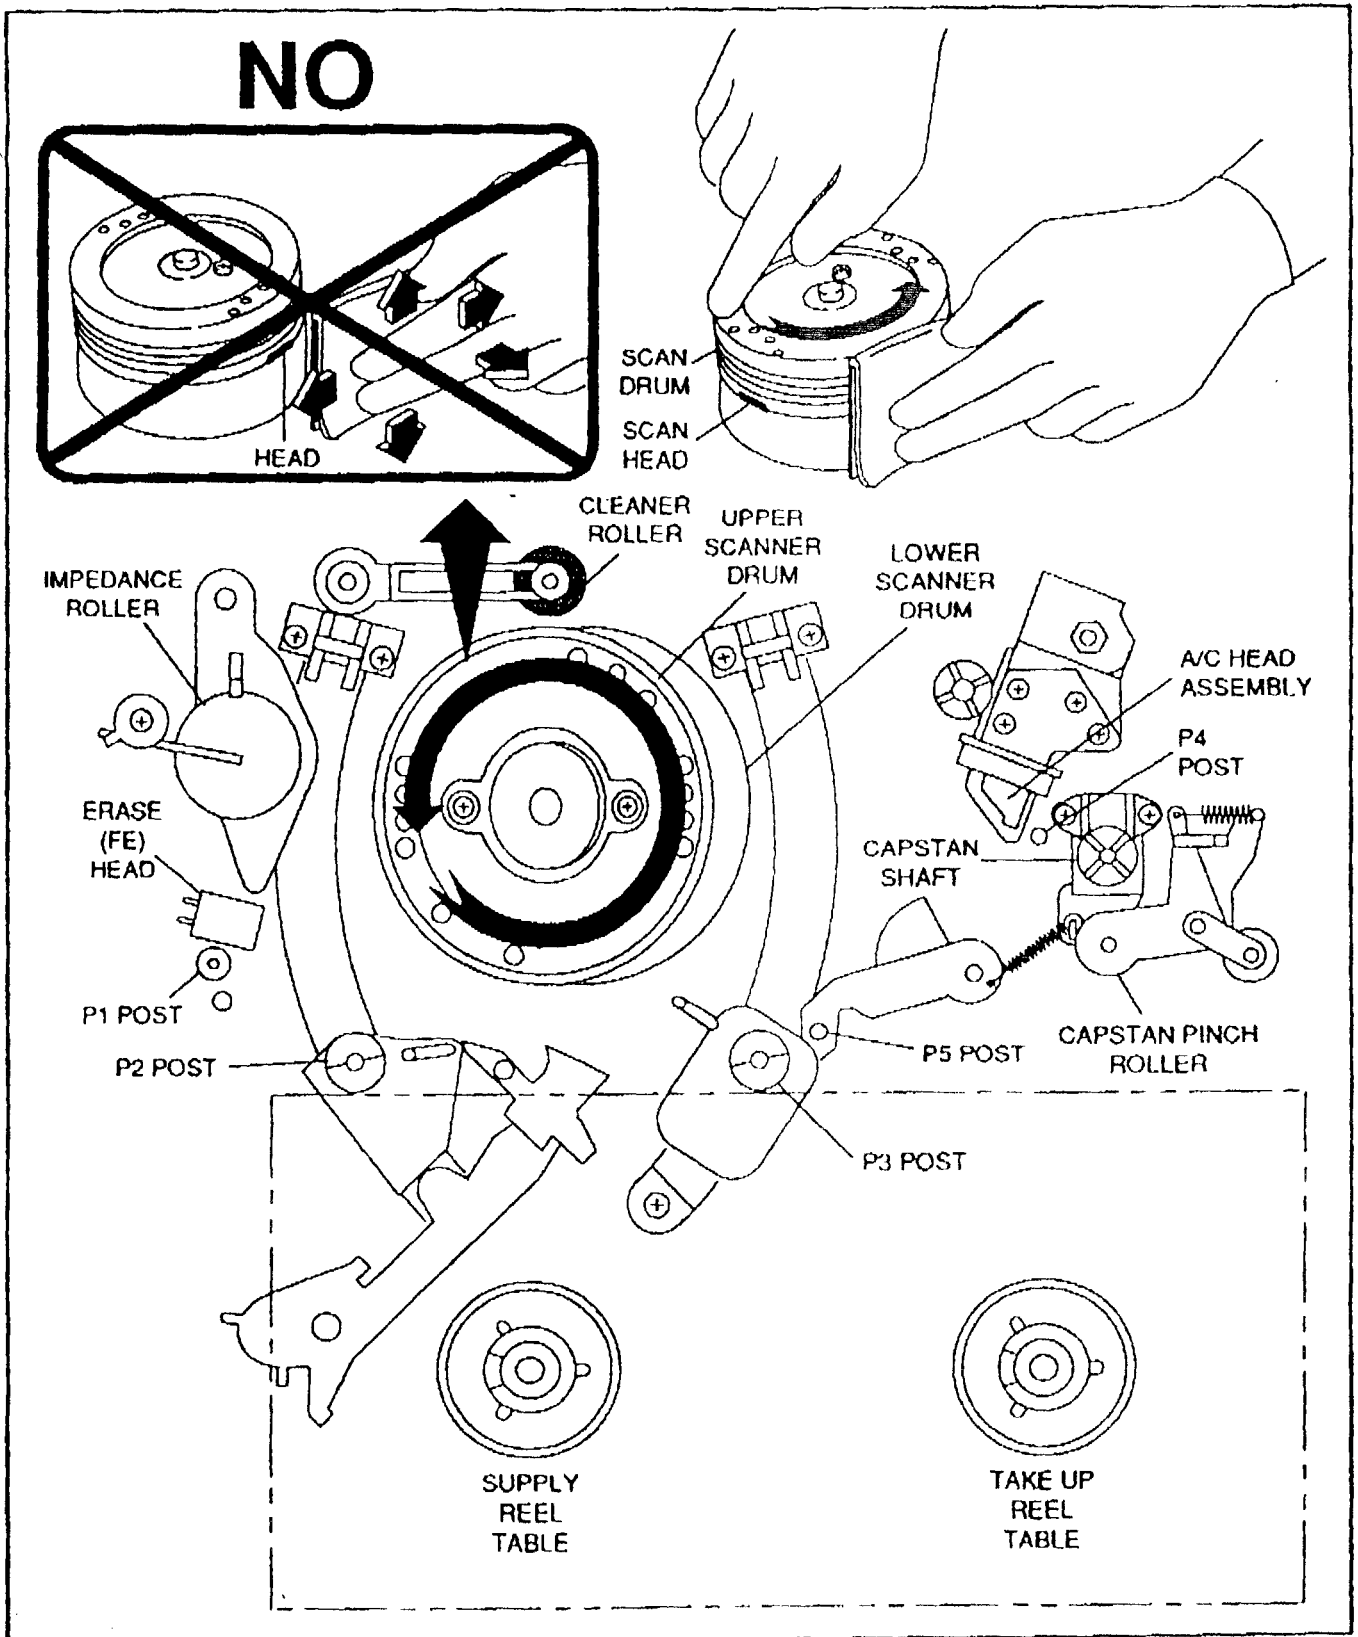

Figure 4. Cleaning Points
The transport assembly is cleaned using the following instructions. Figure 4 illustrates transport cleaning.
3. Saturate a CLEAN UNUSED head cleaning cloth with HEAD CLEANING SOLUTION. Place the head cleaning cloth against the scanner drum as shown in Figure 4. DO NOT place the head cleaning cloth or chamois swab directly on the heads.
- Erase (FE) head